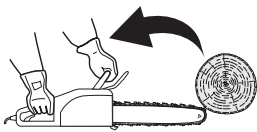

Fig. 23
- > In some cases, contact with the tip of the guide bar (5) may cause a lightning-fast reverse reaction, kicking the guide bar up and back toward the operator (Figs. 23 - 25).